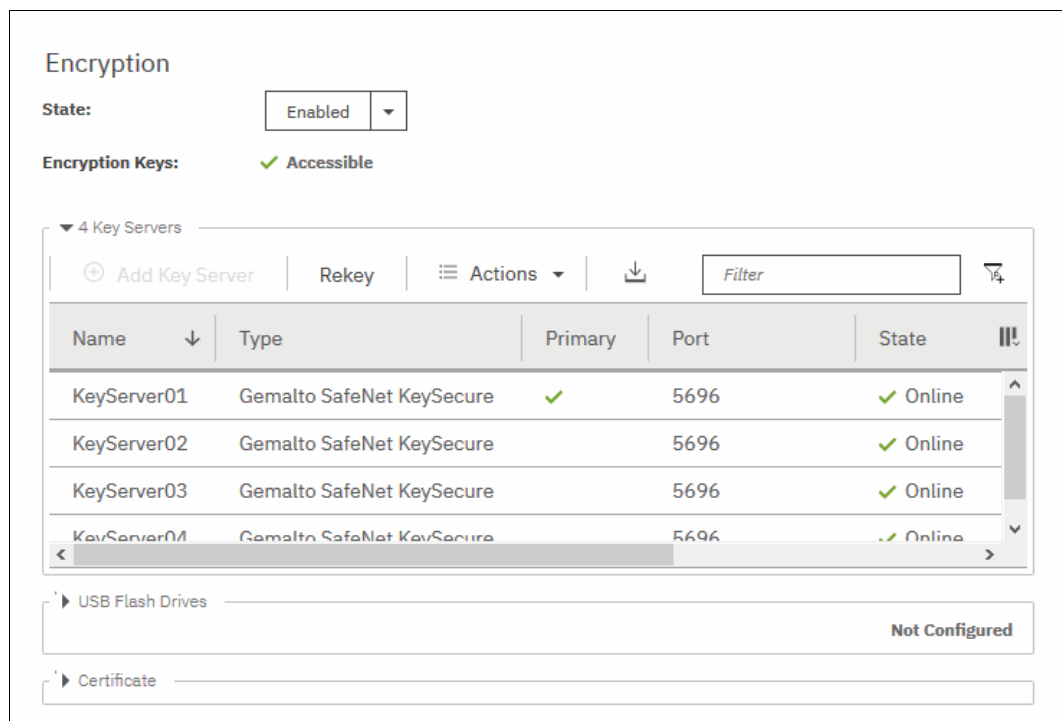

Figure 12-44 Encryption enabled with 4 SafeNet KeySecure key servers
- Confirm that encryption is enabled in **Settings** → **Security** → **Encryption**, as shown in Figure 12-44. Check whether the four servers are shown as online, which indicate that all four SafeNet KeySecure servers are detected as available by the system.